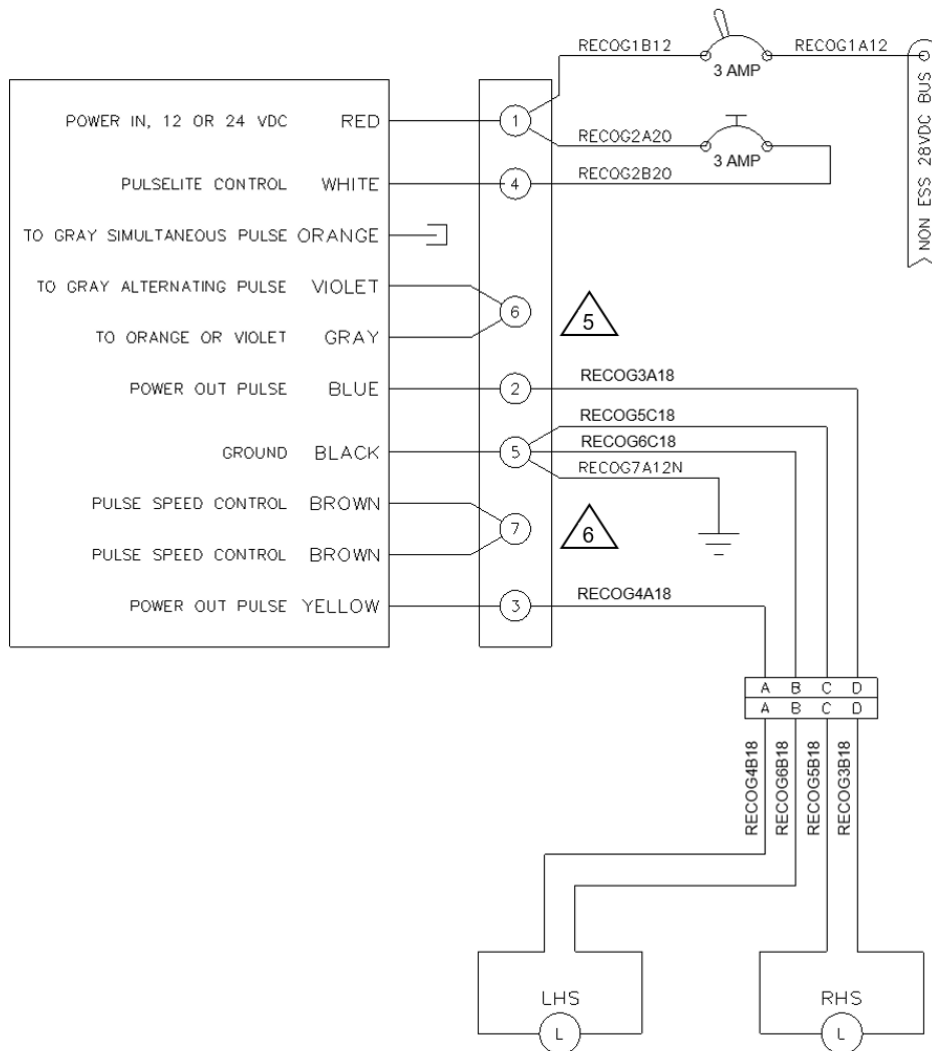

Figure 13
- Lead the free (raw) ends of the supplied Wiring Harness, Assys (Item 55 & 59) from the Bracket, Assy (Item 50) to the Control Unit, Assy (Item 15) on the radio rack and wire accordingly. Reference Figure 13.
- Wire the Toggle Switch (Item 46) and pulse control to the aircraft. Reference Figure 13.